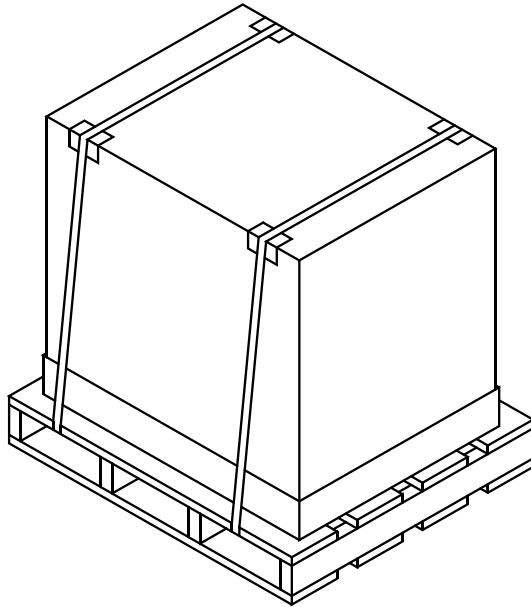

Figure 7-10 Securing the banding material
10. Secure banding material around the box and through the wooden pallet, as shown in Figure 7-10.